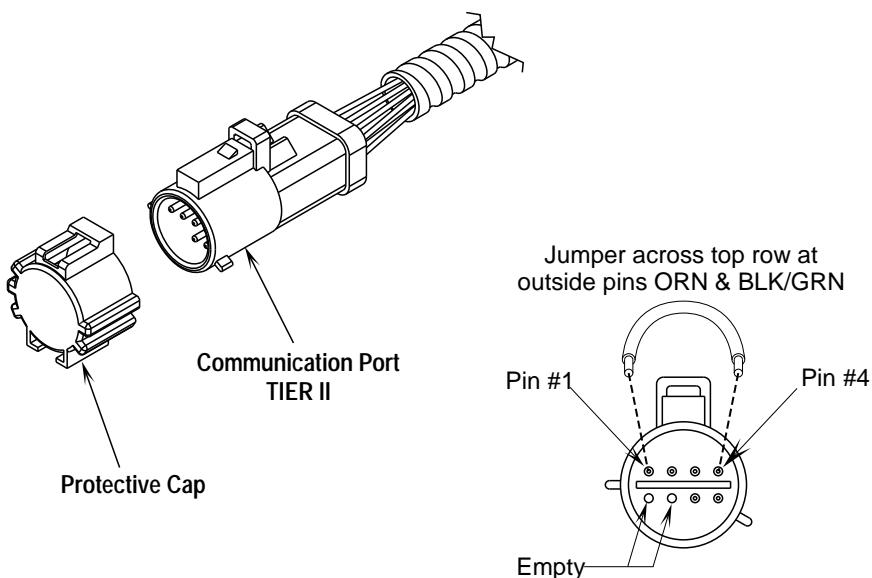

FIGURE 14
- 1 See Figure 14. Remove the Protective Cap from the Communication Port on the engine.
- 2 Use a wire to jumper pin #1 to pin #4 as shown in Figure 14.
- 3 Turn the key switch (50) to the on position. You can now read the error codes by observing the blinks on the Warning Indicator Light (62). Be ready to write down any codes that may be stored.